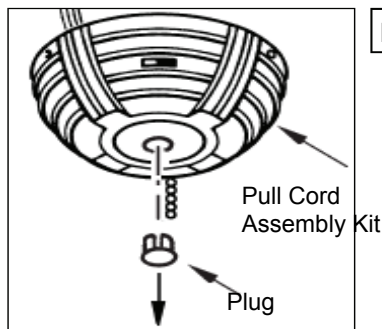

Fig. 10
STEP 1 (Fig. 10)
a) Use thumb to push out the plug in the pull cord assembly kit, see figure 10.